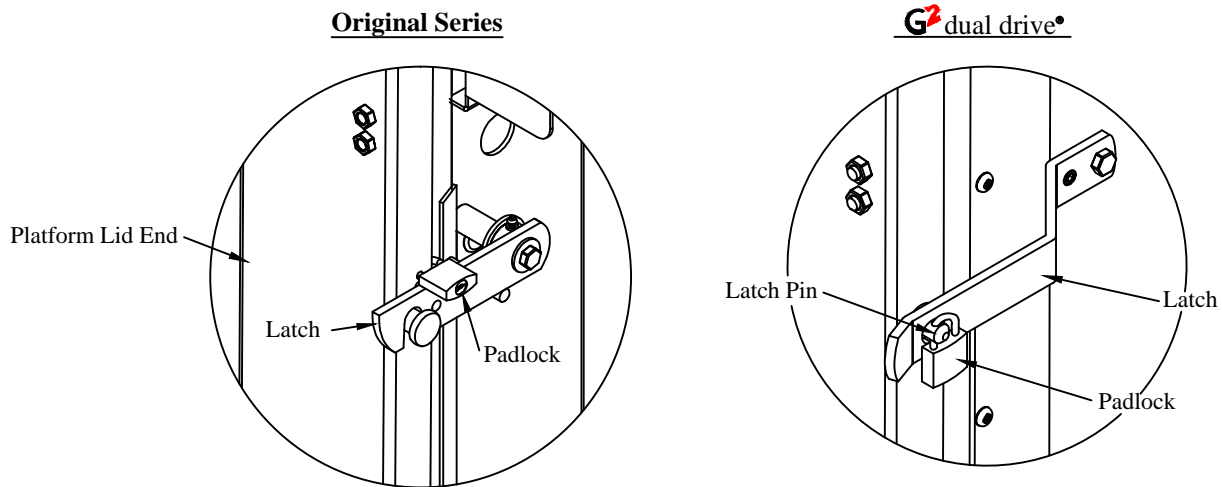

Figure 26: Padlock location.
9. **Lock** the padlock through the hole in the platform or latch pin (Figure 26).